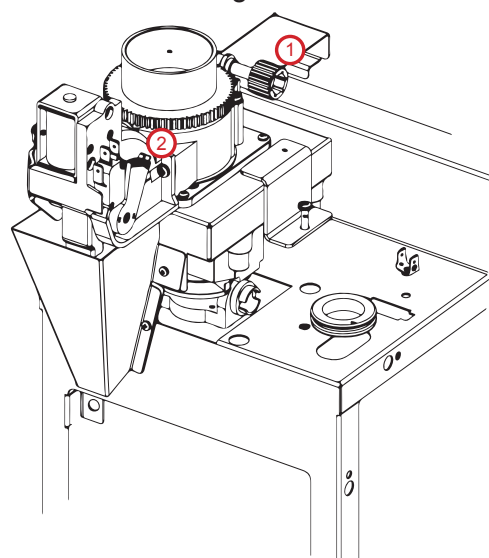
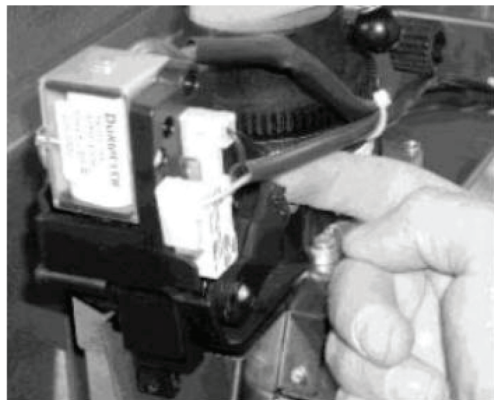

Fig.4.6
Fig.4.7
The dosing apparatus helps you set the required amount of coffee for the espresso group according to the desired drink. The volume of coffee is regulated with the help of the dosing apparatus's cam (see fig.4.6 pos.2 and fig.4.7). The positions can be from **1 to 6 (MAXIMUM)**. At the same time it is prohibited to set the cam to positions **5 or 6 without increasing the volume of the boiling chamber (see further)! THIS CAN DAMAGE THE ESPRESSO GROUP!**